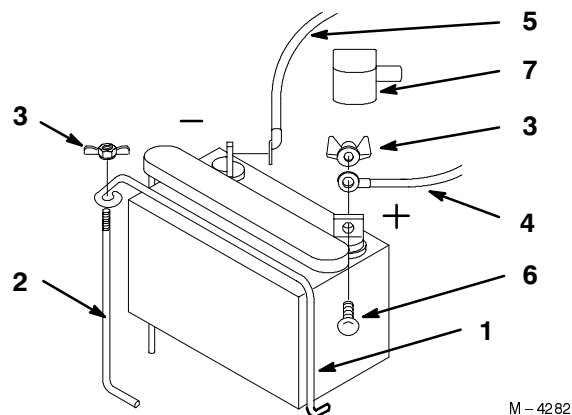

Figure 6
1. Mount battery on battery support with terminal posts toward gas tank (Fig. 6).
2. Secure battery with clamp, support rod and wing nut (Fig. 6).
3. Slide the red terminal boot onto the red battery cable (Fig. 6).
4. Install the positive battery cable to positive (+) battery terminal and the negative battery cable to the negative (-) battery terminal and secure with carriage bolts and lock nuts (Fig. 6).